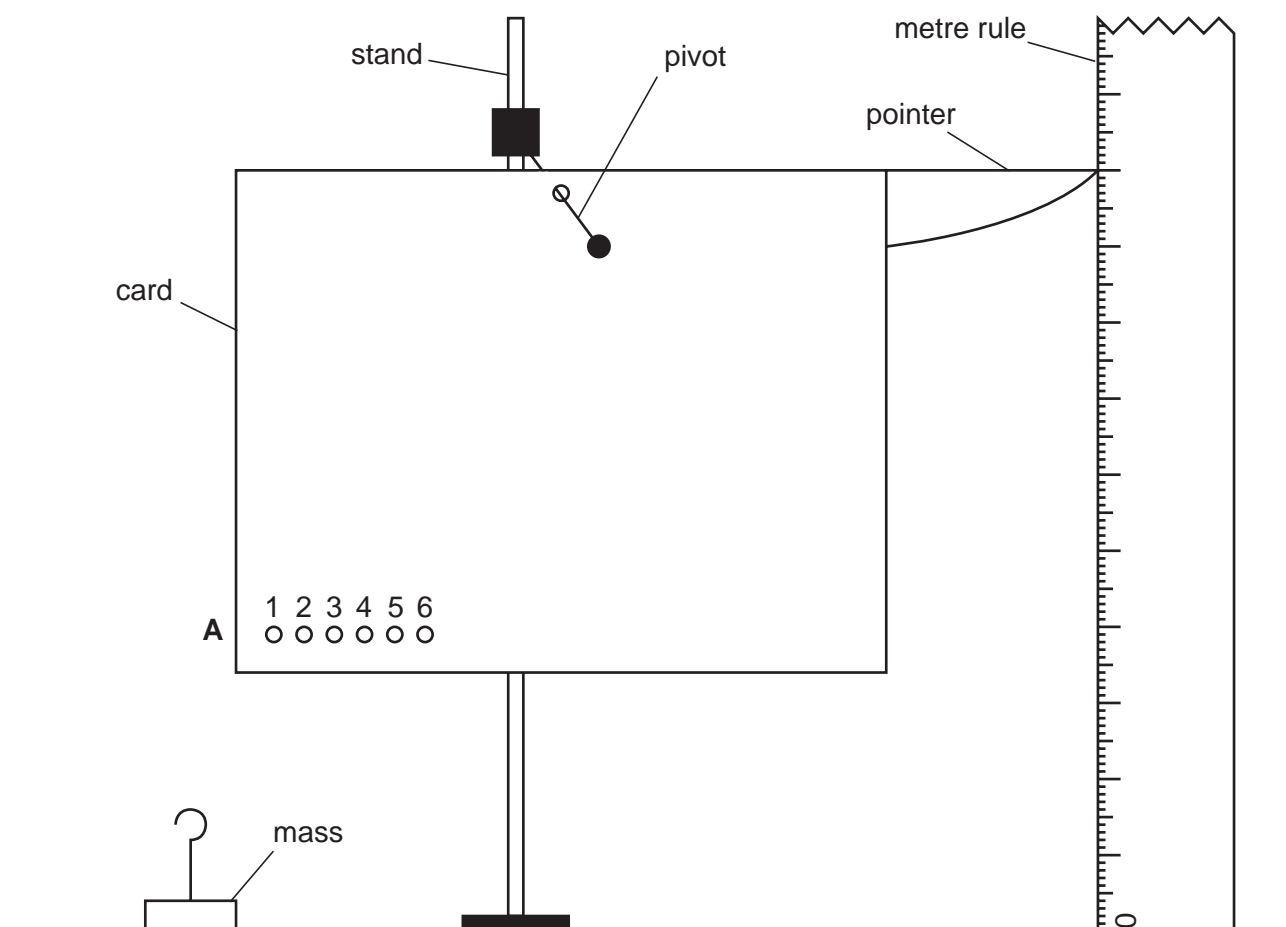

Fig. 2.1
- (iv) 50 g mass with a hook to hang it from the card as shown in Fig. 2.1 (a 10 g mass hanger with four 10 g slotted masses is suitable).
1. The apparatus is to be set up for the candidates as shown in Fig. 2.1.
2. The holes in the card are to be labelled **1 – 6** and are to be 15 mm, 30 mm, 45 mm, 60 mm, 75 mm and 90 mm respectively from the point on the edge of the card labelled **A** as shown in Fig. 2.1.
3. The pointer is to be stuck near the top edge of the card as shown in Fig. 2.1.
4. The hole for the pivot should be positioned so that the card hangs approximately horizontally as shown in Fig. 2.1. The hole should be just large enough to allow the card to pass easily over the end of the pivot.
Arrange the apparatus as shown in Fig. 2.1.